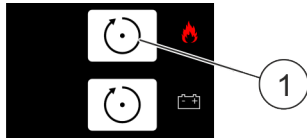

Fig. 24: [Reset] button
- 32. ▶ Reset the alarm with the upper [Reset] button (Fig. 24/1).